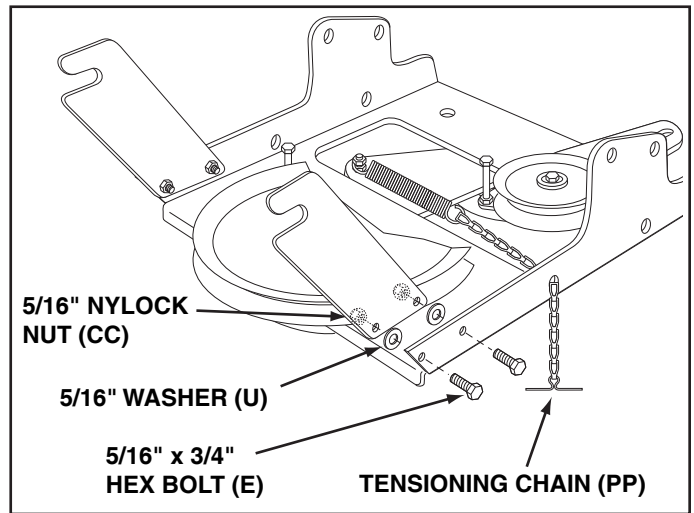

FIGURE 30
STEP 30: (SEE FIGURE 30)
- Attach the two suspension arms to the inside of the clutch/idler assembly using two 5/16" x 3/4" hex bolts (E), 5/16" washers (U) and 5/16" nylock nuts (CC) for each arm. Place the washers between the arms and the assembly frame.